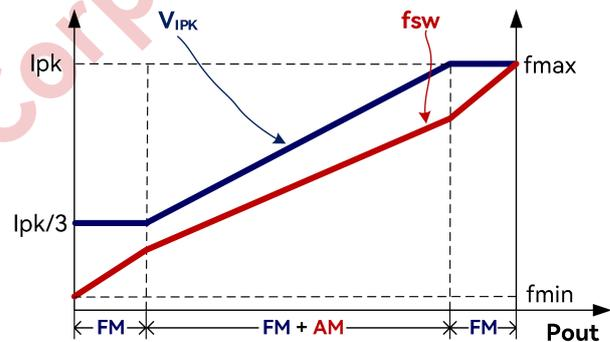

Fig.1
To meet the tight requirement of averaged system efficiency and no load power consumption, a hybrid of frequency modulation (FM) and amplitude modulation (AM) is adopted in KP3511X which is shown in the Fig 1.